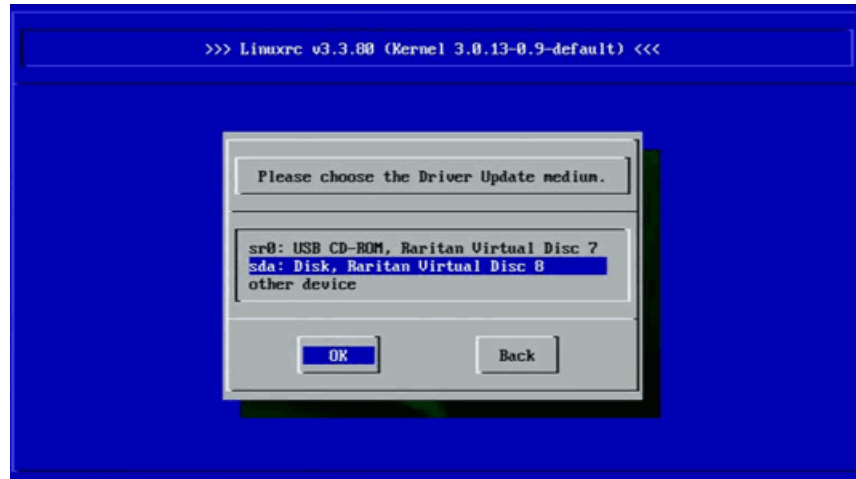
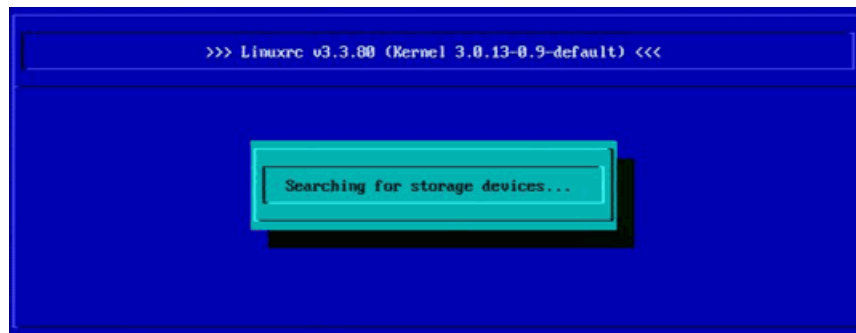

Figure 14-12. Selecting Driver Update Medium
Figure 14-13. Loading the Drivers
2. Follow the prompts to choose the driver update medium (Figure 14-12) and load the drivers (Figure 14-13).